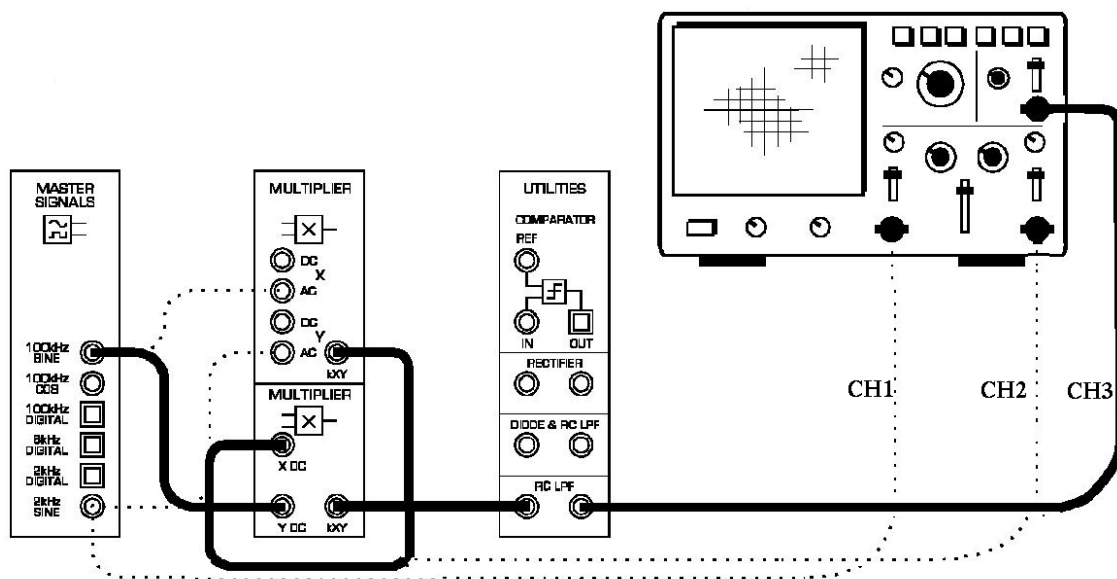

Figure 8:
1. Modify the setup as shown in Figure 8.